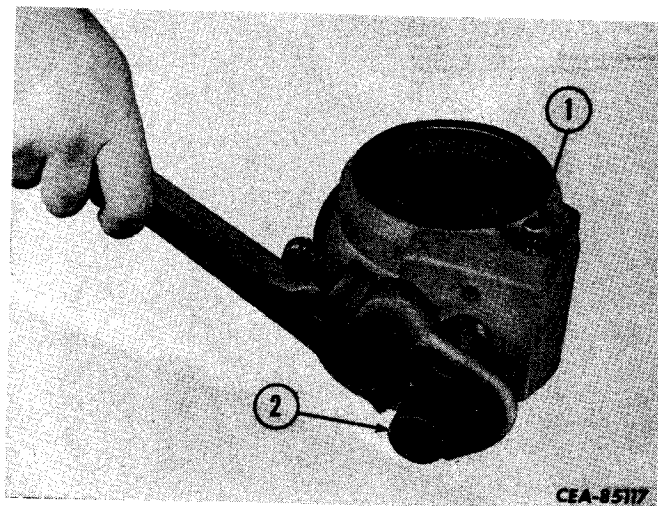

Figure 5-27
Remove breather (1, Fig. 5-27) and dipstick tube (2) from housing if they are damaged.